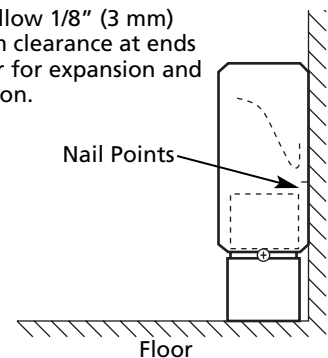

Figure 3 - Installation of Heater
1. Position the heater at the desired location on the wall as shown in Figure 3. For maximum heating comfort, position the heater under a window.